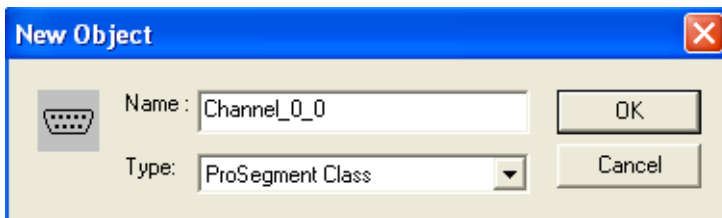

Figure 34. is Pro Multiserver New Object Name
7. Right-click the Module_0 and select **Insert Object**. A pop-up message, similar to the one shown in Figure 34 is displayed.